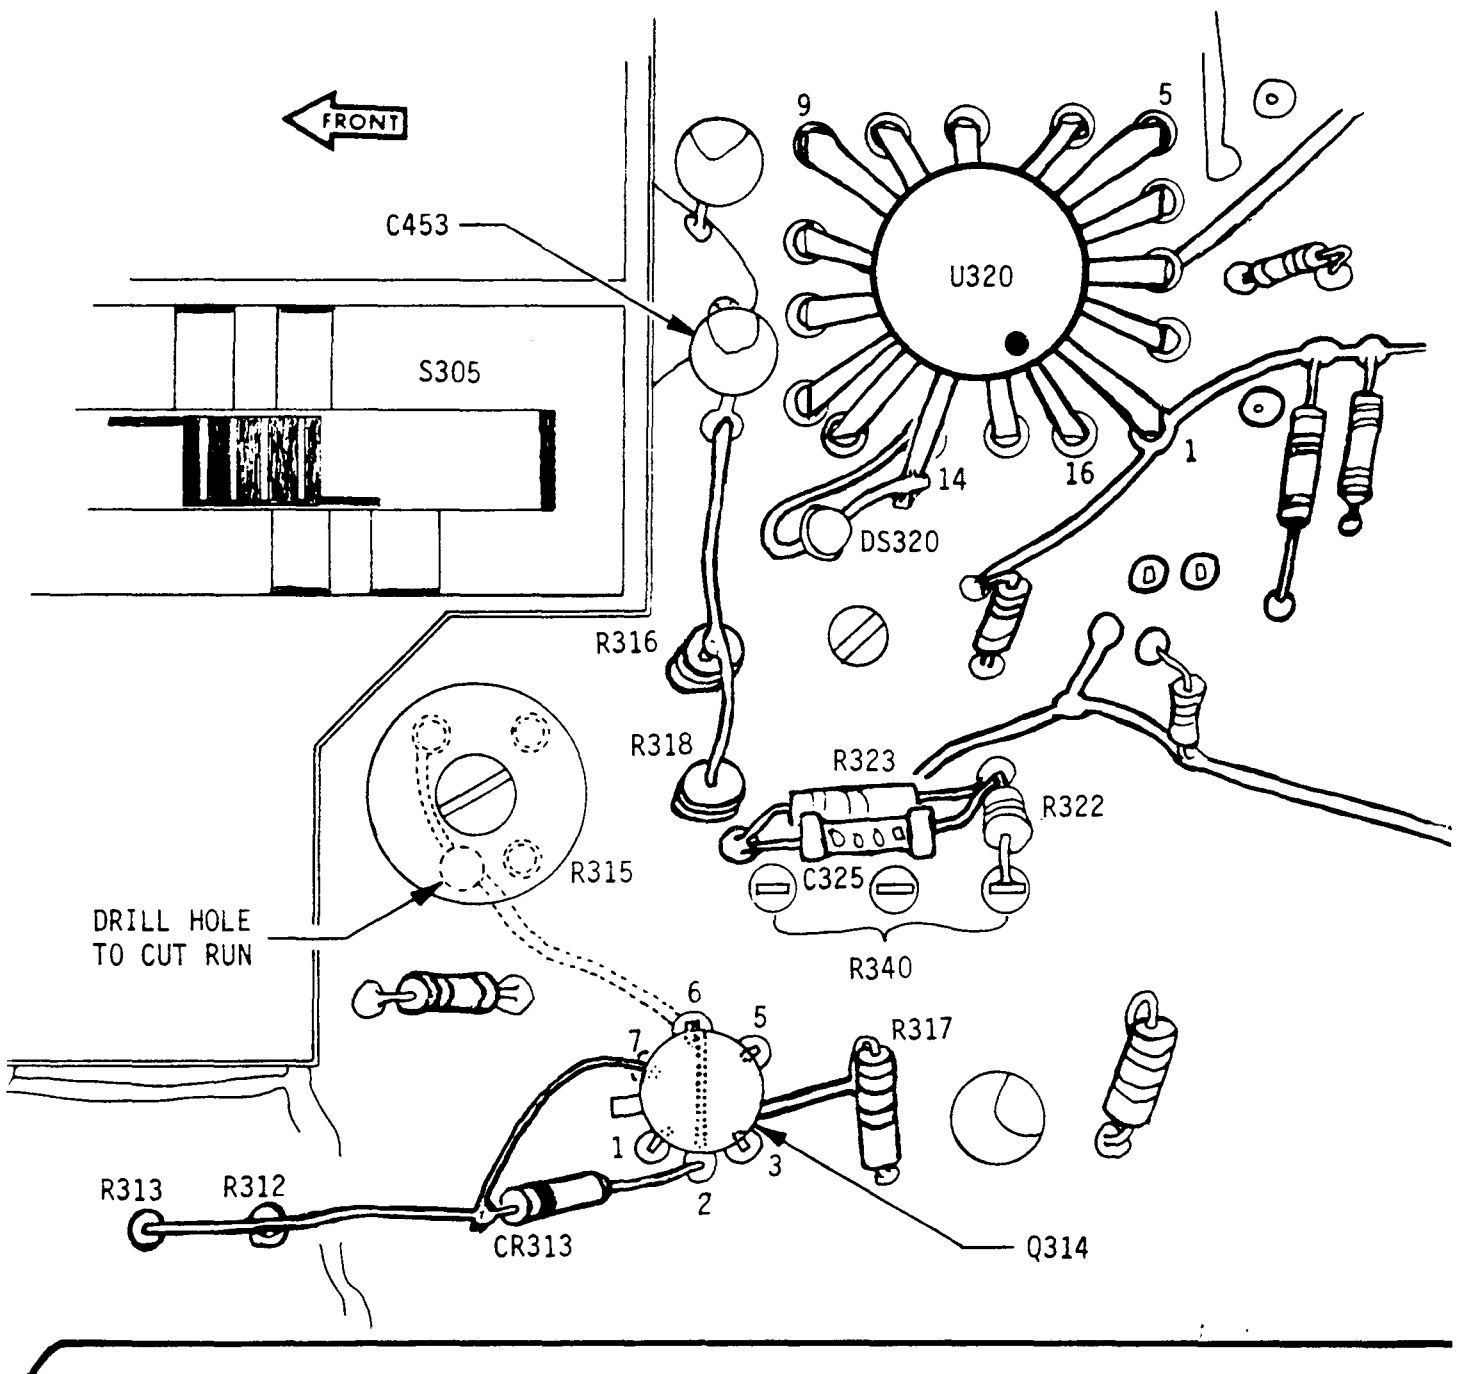

Fig. 1. Partial View - Front (Component Side) of Input Circuit Board.
Make the Following changes on the front (component side) of the Input circuit board. Refer to figures 1 and 2 while performing steps B-1 through B-21.
- () 15. Trim the other lead of R318 to 5/8-inch in length. Bend it over parallel with the circuit board, then down to the closest (-5.6V) lead of C453, a 4.7 μ F tantalum capacitor. Solder this lead to the unconnected end of R316 and to C453 as shown in Fig. 1.